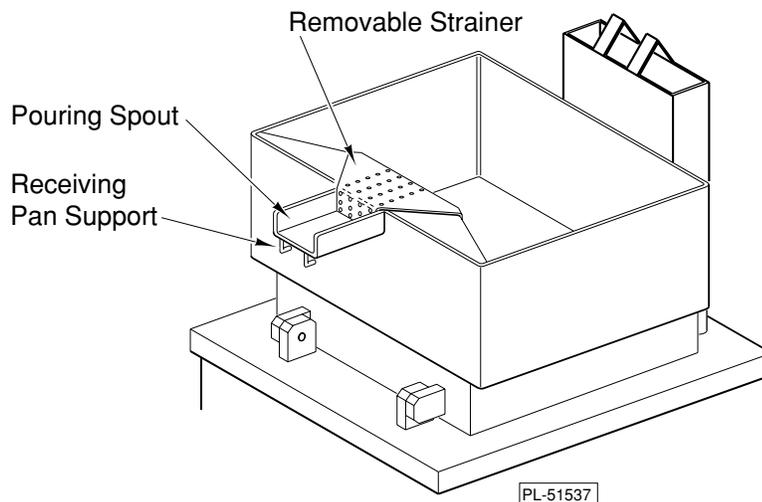

Fig. 2
4. Food is poured through the removable strainer (Fig. 2) into a food receiving pan positioned under the lip of the pouring spout (Fig. 2).
1. Thoroughly wash pan, pouring spout (see Fig. 2), lid and exterior surfaces with detergent and warm water. If necessary, soak pan to remove food that is stuck to pan surface. Rinse thoroughly and wipe dry with a soft clean cloth.
2. Clean removable strainer and receiving pan support (see Fig. 2) with detergent and warm water. Rinse thoroughly and wipe dry with a soft clean cloth.